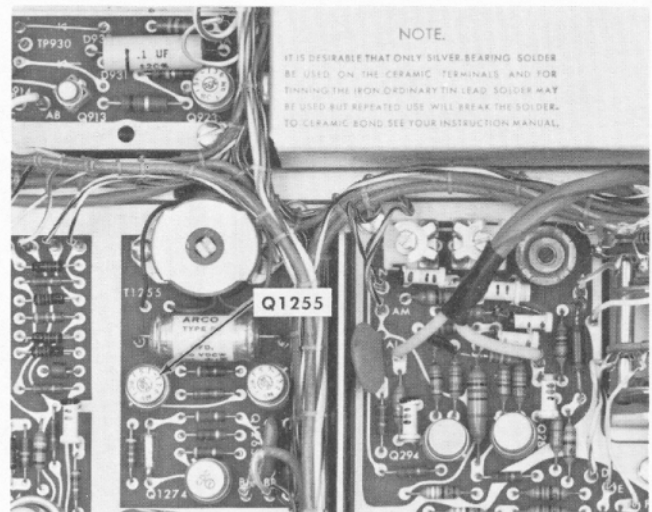

Fig. 6-6. Location of Q1255 (Calibrator section of A Sweep board).
- c. Remove Q1255 (see Fig. 6-6) from the Calibrator board.